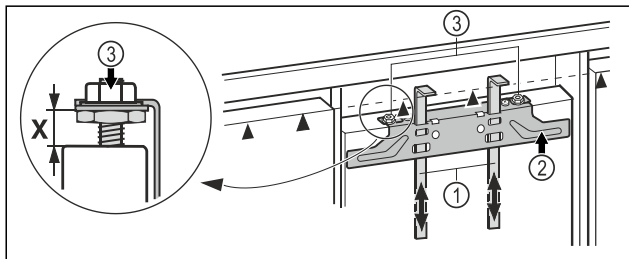

Fig. 16
- ▶ Push the assembly aids Fig. 16 (1) up to unit door height. Lower stop edge ▲ of the assembly aid = upper edge of the unit door to be assembled.
- ▶ Unscrew the fastening bar Fig. 16 (2) using the lock nuts Fig. 16 (3).